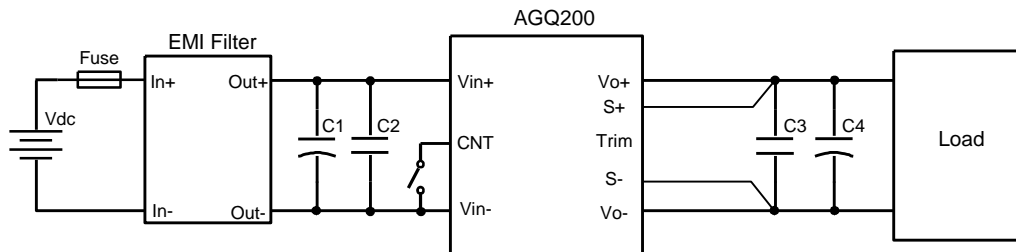

Figure 11 Typical application
Figure 5 Dynamic response for 25% load step (25% ~ 50% ~ 25%) and 0.1A/µs slew rate, (2ms/div), see Figure 11 for test configuration; CH1-output voltage (20mV/div); CH2-output current (20A/div)
Figure 6 Dynamic response for 25% load step (50% ~ 75% ~ 50%) and 1A/µs slew rate, (2ms/div), see Figure 11 for test configuration; CH1-output voltage (50mV/div); CH2-output current (20A/div)
- C1 ~ C4: See Figure 11